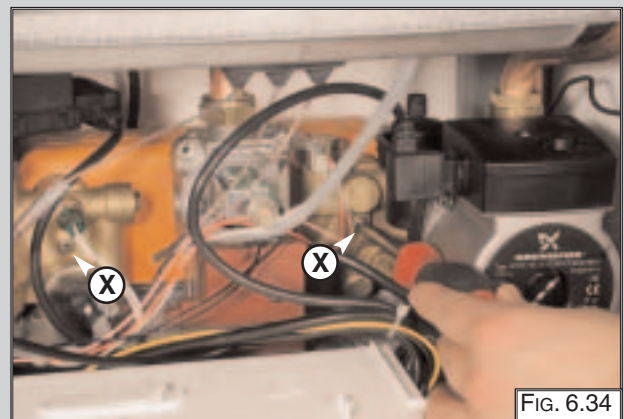

FIG. 6.37
4. Push the exchanger towards the rear of the boiler, and lift upwards and remove out of the front of the boiler (FIG 6.37);